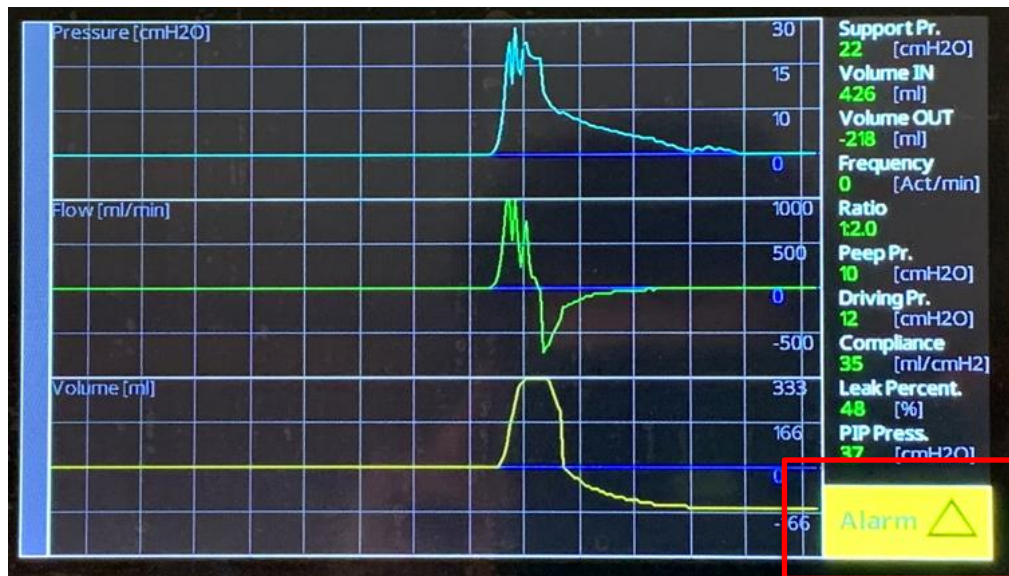
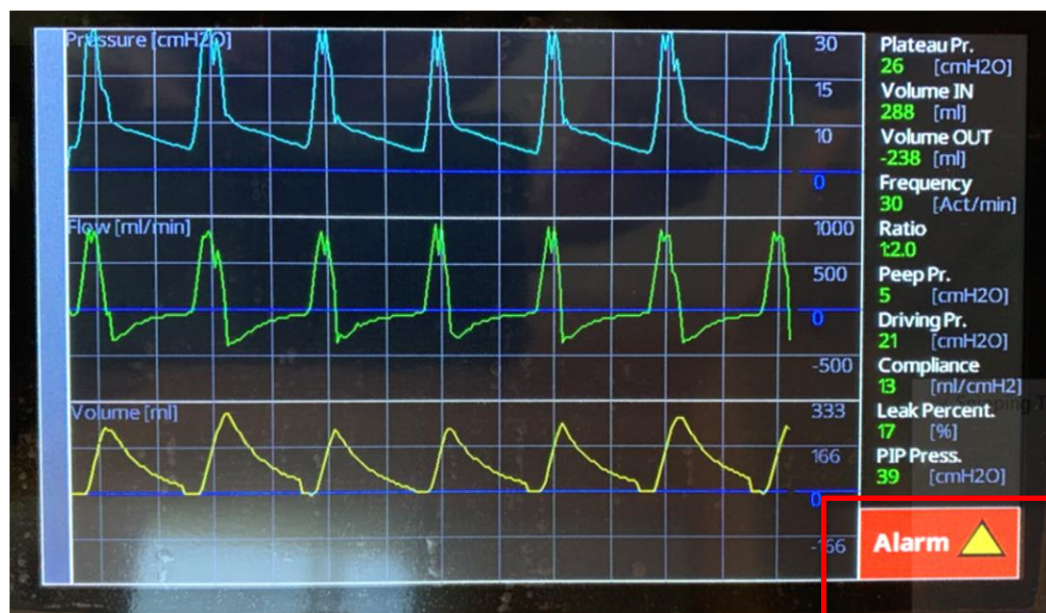

Figure 9.1. Home page signaling a medium-priority alarm (red box).
Figure 9.2. Home page signaling a high-priority alarm (red box).
- One of the red or yellow alarm icons flashes to the bottom-right corner of the 'Home' page (see Figure 9.1 and Figure 9.2, below)